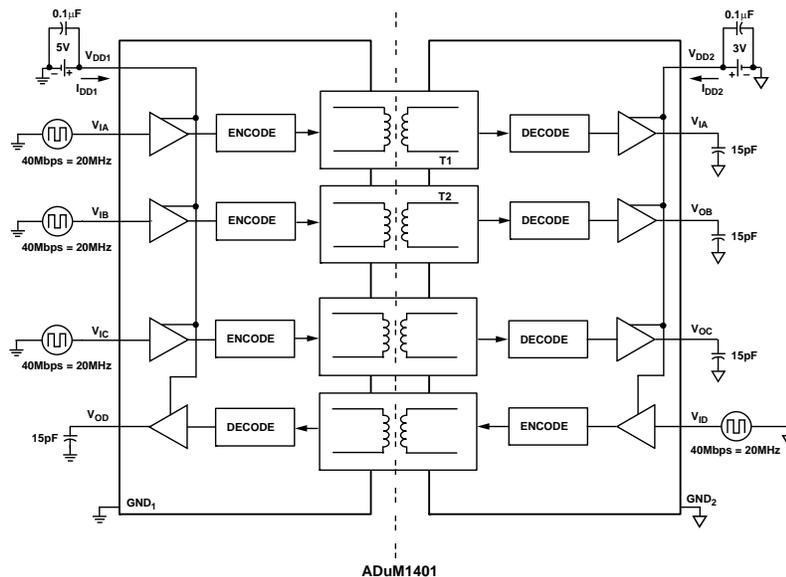

Figure 6. Supply Current Calculation Example Using the ADuM1401
Figure 6 shows an example using the ADuM1401 quad *i*Coupler. The operating conditions are:  $V_{DD1} = +5V$ ,  $V_{DD2} = +3V$ ,  $C_L = 15\text{ pF}$ ,  $f = 40\text{ Mbps}$  ( $f = 20\text{ MHz}$ ). The total  $I_{DD1}$  and  $I_{DD2}$  currents are the sum of the appropriate  $I_{DD1}$  and  $I_{DD2}$  for each of the four channels.
**Table 2. Supply Current Calculations for Figure 6**